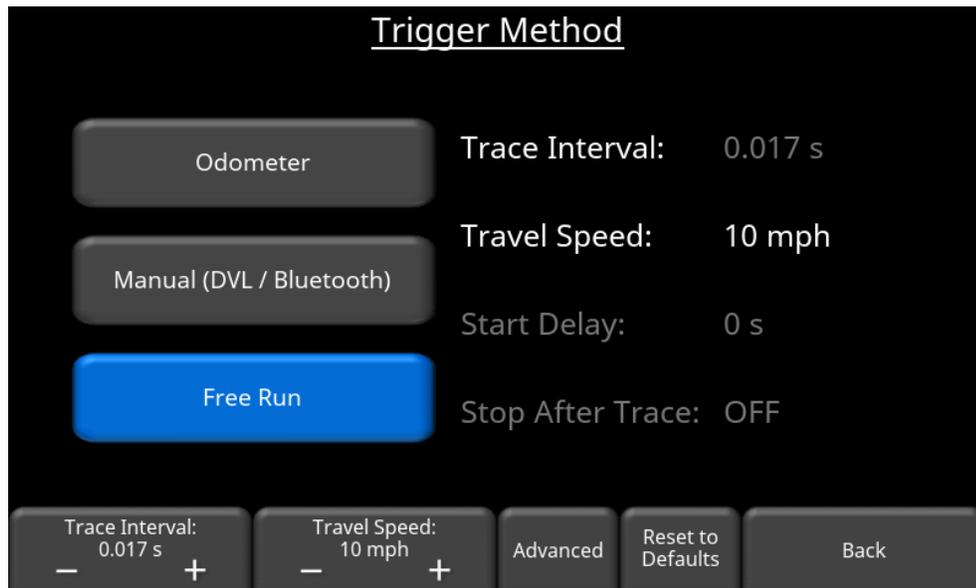

Figure 6-19: Free Run Trigger method
- **Free Run** - In some cases, collecting data with an odometer is not practical or even possible, for example when collecting from a boat. Free run mode allows the system to pulse based on a specified time interval or pulse continuously. This is best for surveys in unobstructed terrain where antennas can be moved easily. For the position of each measurement point, the system assumes the operator has moved the antennas one step size along the survey line. Pressing **Free Run** will display the screen in Figure 6-19.
The user has the option to control the *trace* interval or the *travel speed*, such that the programmed step size (*distance*) is maintained. In the example in Figure 6-19, the user wants to travel at 10 mph. To maintain the set step size, the trace interval will automatically be set at 0.017s.